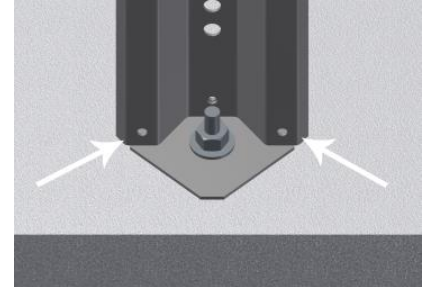

Figure 1: Remove bolts from bin leg
1. Remove all bolts connecting the leg to the footpad. Loosen the original anchor bolt but leave it intact at the bottom of the footpad. The footpad can and should be removed if it is binding or interfering with lifting the leg. **(Figure 1)**